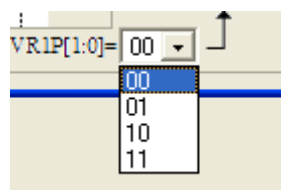

Figure 40
- (1) Click mouse left key on the name of VR1P to select the network
- (2) Click mouse left key on the network switch, VR1P to select the network
- (3) Click mouse left key on the network, window like Figure 40 will appear, users can select network switch.
- (1) Click mouse left key on the name of VR1N to select the network
- (2) Click mouse left key on the network switch, VR1N to select the network
- (3) Click mouse left key on the network, window like Figure 40 will appear, users can select network switch